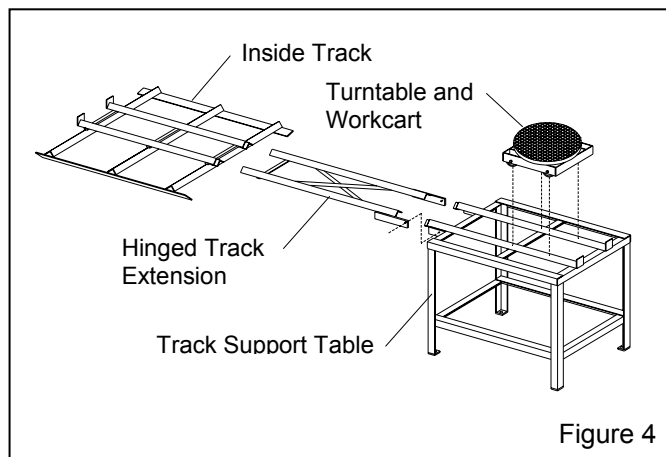

Figure 4
**3.4.1** Components of the track and turntable are shown in Figure 4. The assembly consists of: